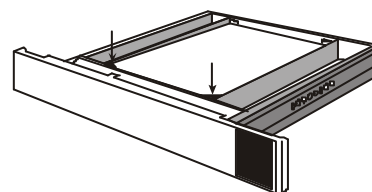

Fig. 13 Correct Paper Loading
- Push down the stack, such that all sheets are under the separation corners (Fig. 13).